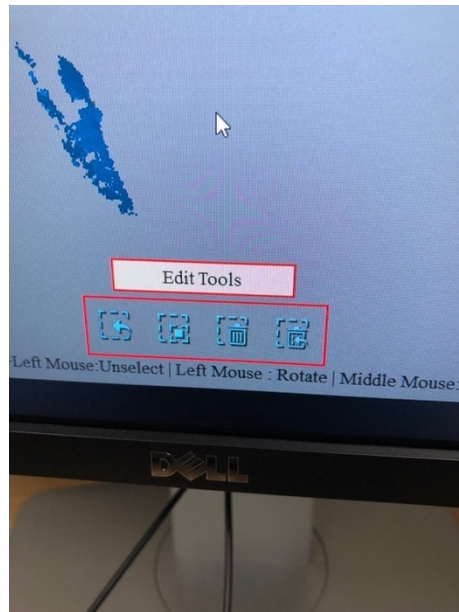
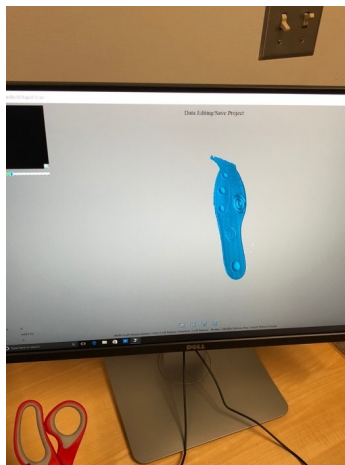

Figure 8: Select the delete button at the bottom of the screen to remove unwanted material in the scan.
Figure 9: Sample of a final, cropped image
9. Use the trash scan icon included on the bottom tool bar to delete unwanted portions of the scan (Figure 8). The Final scan will resemble that in figure 9.